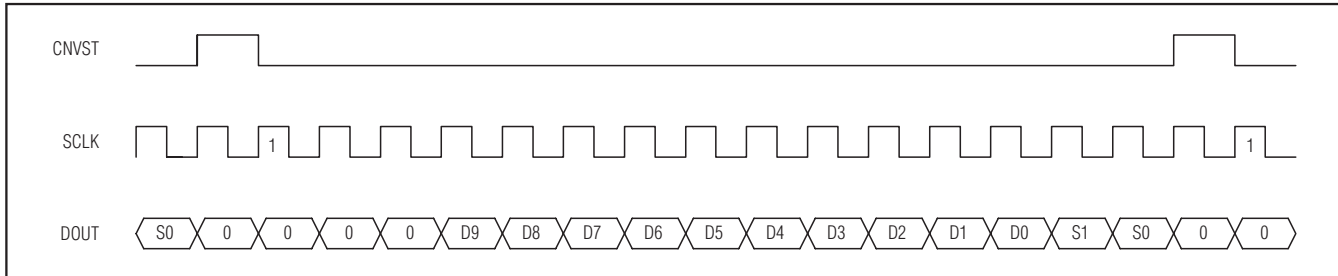

Figure 17. DSP Interface—Continuous Conversion
The MAX1077/MAX1079 can also be connected to the TMS320C54_ by using the data transmit (DX) pin to drive CNVST and the CLKX generated internally to drive SCLK. A pullup resistor is required on the CNVST signal to keep it high when DX goes high impedance and 0001hex should be written to the DXR continuously for continuous conversions. The power-down modes can be entered by writing 00FFhex to the DXR (see Figures 17 and 18).
transmit-data register more than once. For single conversions, idle CNVST high and pulse it low for the entire conversion. The ADSP21_ _ _ STCTL and SRCTL registers should be configured for late framing (LAFR = 1) and for an active-low frame (LTFS = 1, LRFS = 1) signal. This is also the best way to enter the power-down modes by setting the word length to 8 bits (SLEN = 1001). Connect the V_L pin to the ADSP21_ _ _ supply voltage when the MAX1077/MAX1079 are operating with a supply voltage higher than the DSP supply voltage (see Figures 17 and 18).